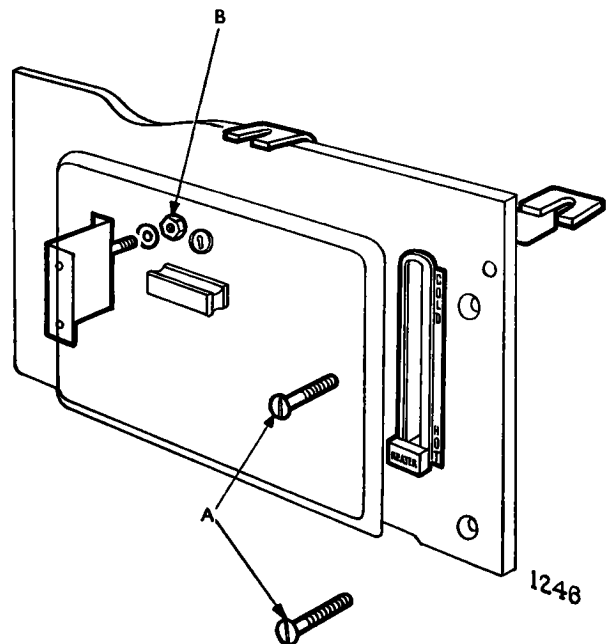

Fig. 47. Left-hand glovebox removal.
Remove the screws (A Fig. 47.) securing the glovebox to the dash and the nut (B) and washer from the bracket at the rear of the glovebox.